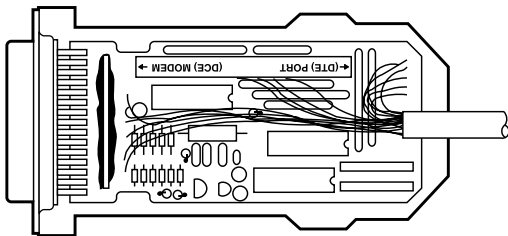

Figure 3. V.35 DTE, V.24 DCE.
5. Turn the socket around and replace it so that the DCE side (labeled on the socket) faces the V.24 connector of the cable and the DTE faces the V.35 device (see Figure 3). Make sure that the pins are aligned with the socket.